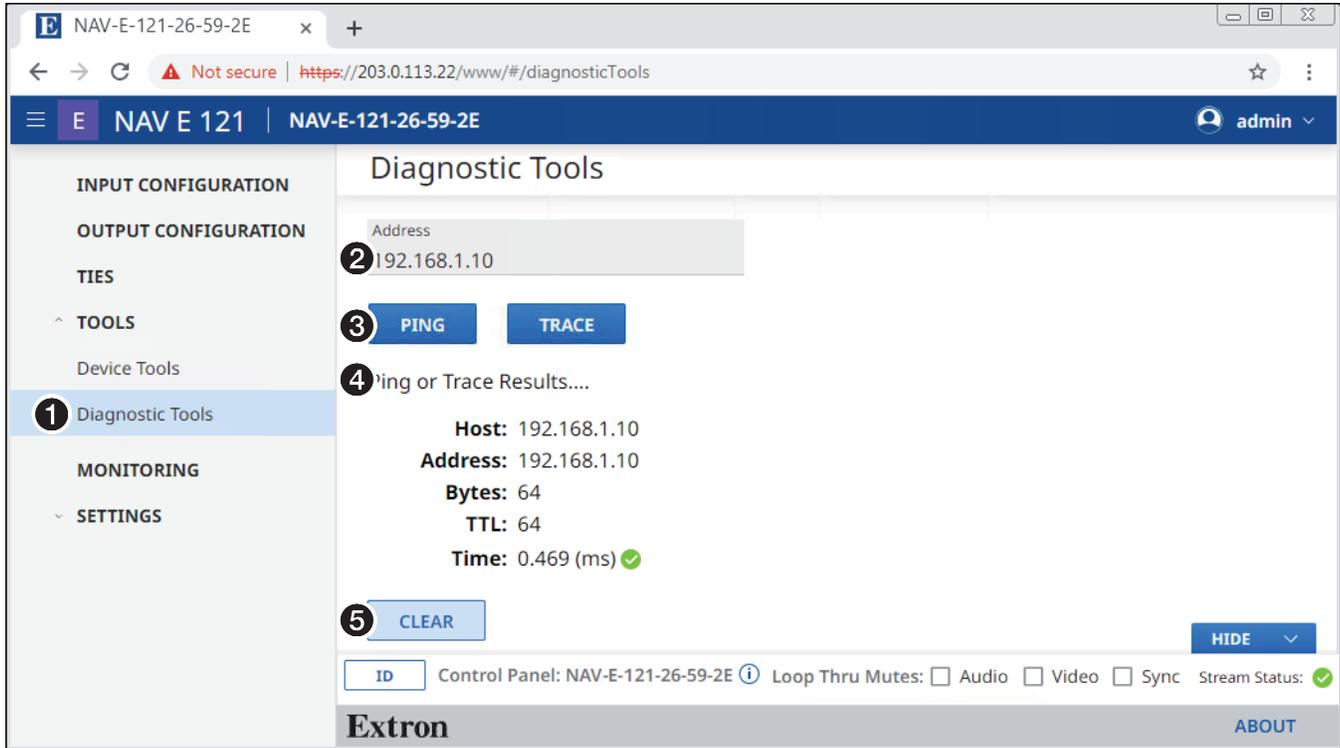

Figure 29. Diagnostic Tools Page, Ping Results Shown
The **Diagnostic Tools** page (see figure 29) provides tools to troubleshoot the connection to other units on the NAV network. Access the page as follows:
- **Ping** — Tests the connection to another unit on the network. Figure 29, 4 shows the typical results of a Ping diagnostic. If you see the message **Ping to Host Address has Timed Out...**, contact your system administrator to troubleshoot.